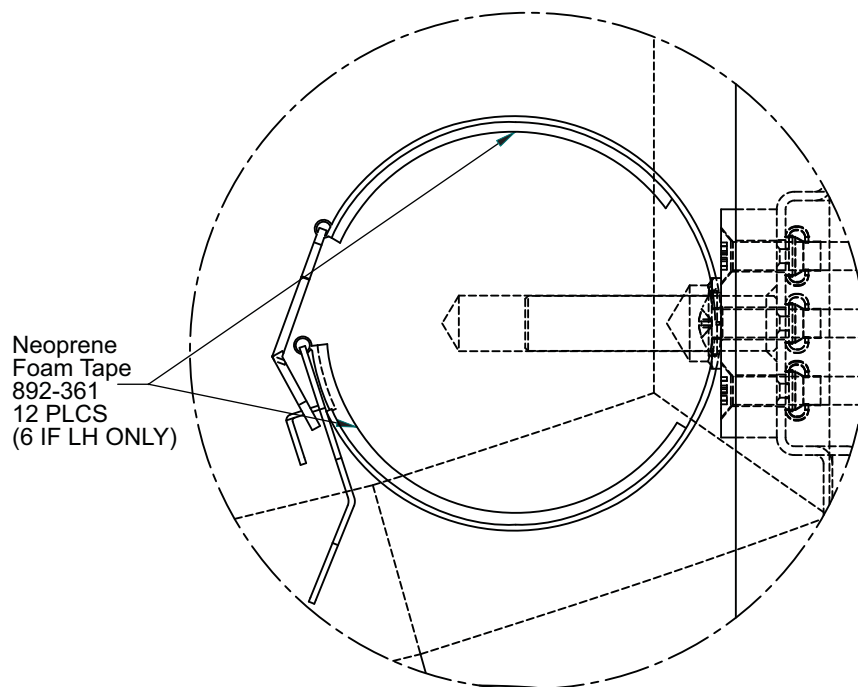

Figure 4 – Neoprene Foam Tape Installation
- 10.20 Install two Neoprene Foam Tape strips (P/N 892-361) to the inside of each Cylinder Clamp as shown in Figure 4.